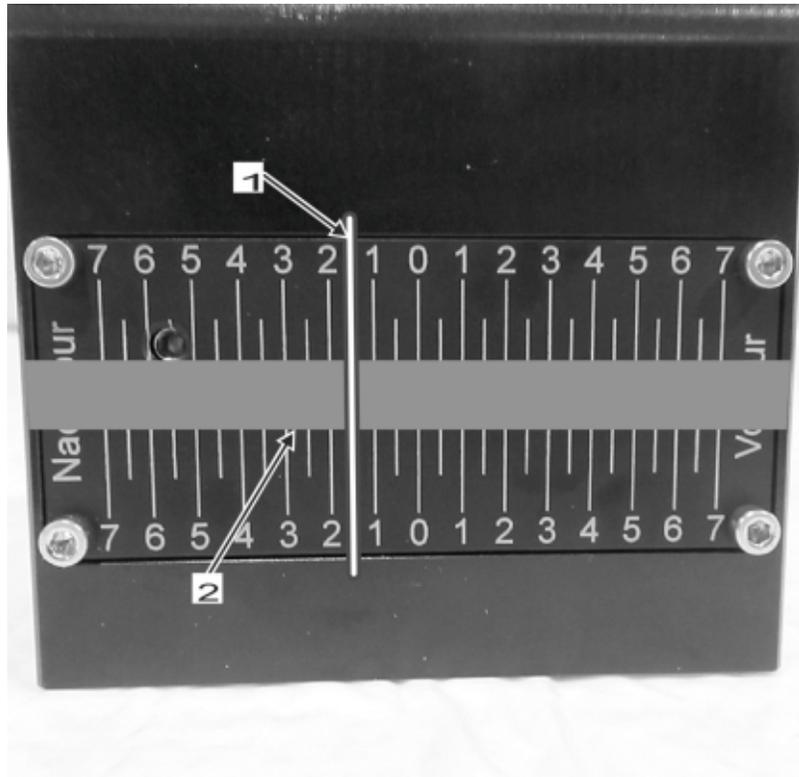

Figure 50
- ⇒ **Figure 50 -1** – The laser housings each project a laser beam onto the scale of the laser housing on the other axle on the same side of the vehicle.
- ⇒ **Figure 50 -2** – It is important to read the values in the middle area of the laser beam. If the beam is facing too far up or down, there may be slight deviations.